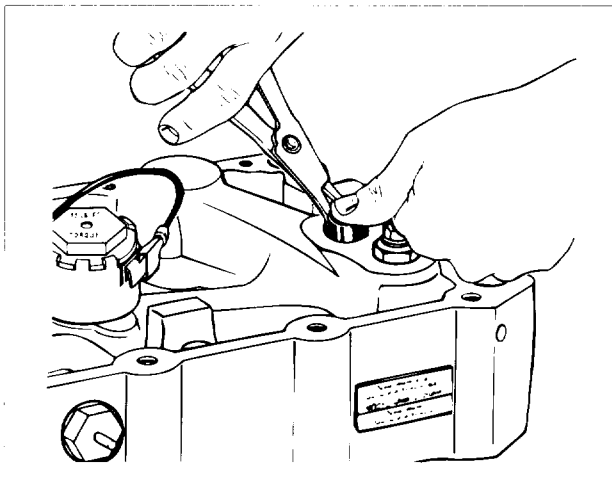

FIG. 14
2. Remove retaining ring using retaining ring pliers (see Fig. 14).